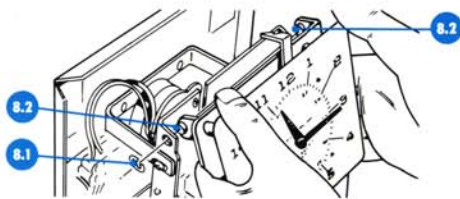

FIGURE 8
4. Lift type section slightly and move it to the right to release hinge pins **8.2** from their sockets. Unit will lift out (Fig. 8).